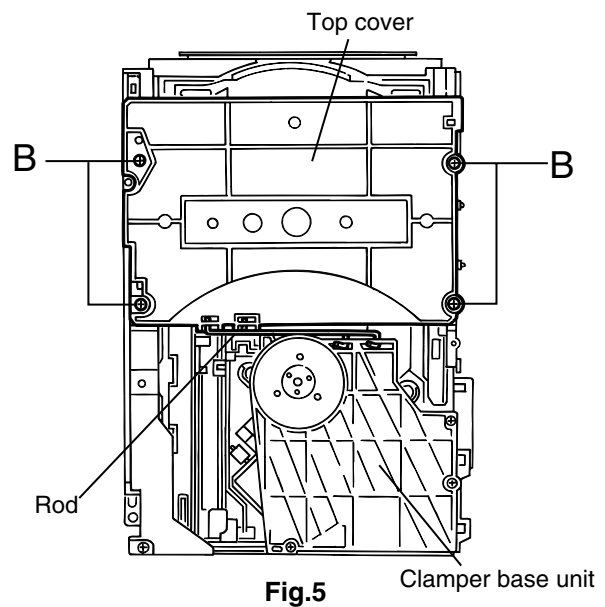

Fig.5
■Removing the tray select switch board (See Fig.5,6 and 23)